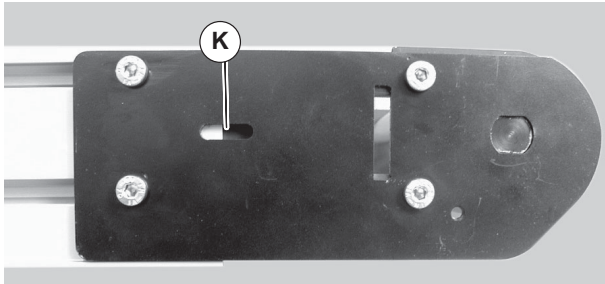

Figure 30
15. Extend head plate assembly until proper tension in the belt is achieved. If proper tensioning can not be obtained before the belt life indicator is all black (Figure 30, item K) the belt must be replaced.